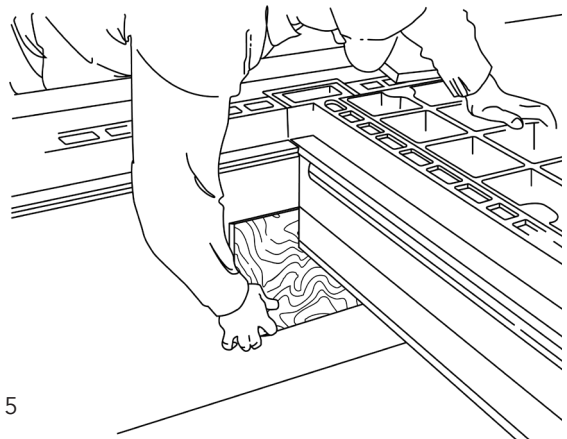

Figure 5
- Pay attention to the formwork around the wallbox locations to prevent concrete from entering wallboxes. (Figure 5)